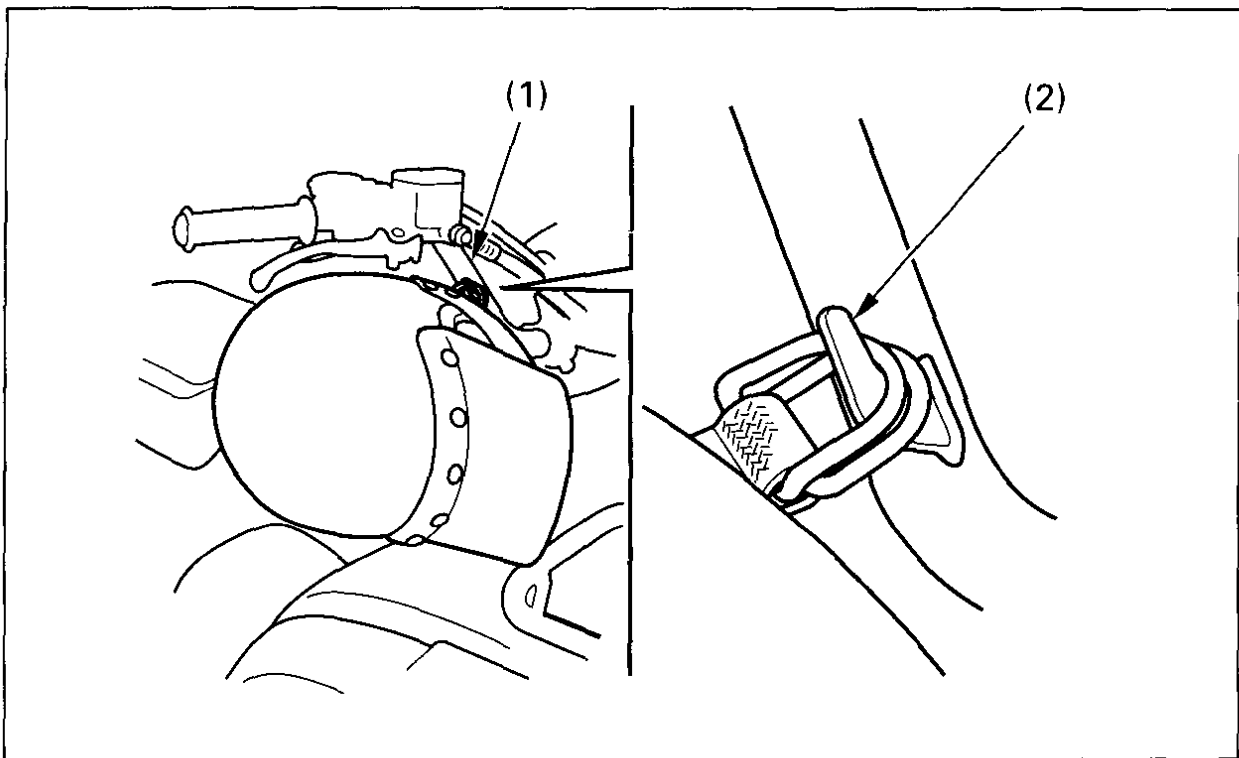

Fig. 2-29 (1) Handlebar
The helmet holder (2) (Fig. 2-29) is located on the right side of the handlebar (1). To use the holder, hang the D-ring on your helmet strap over the bracket. Use the helmet holder only when the FOURTRAX is parked.